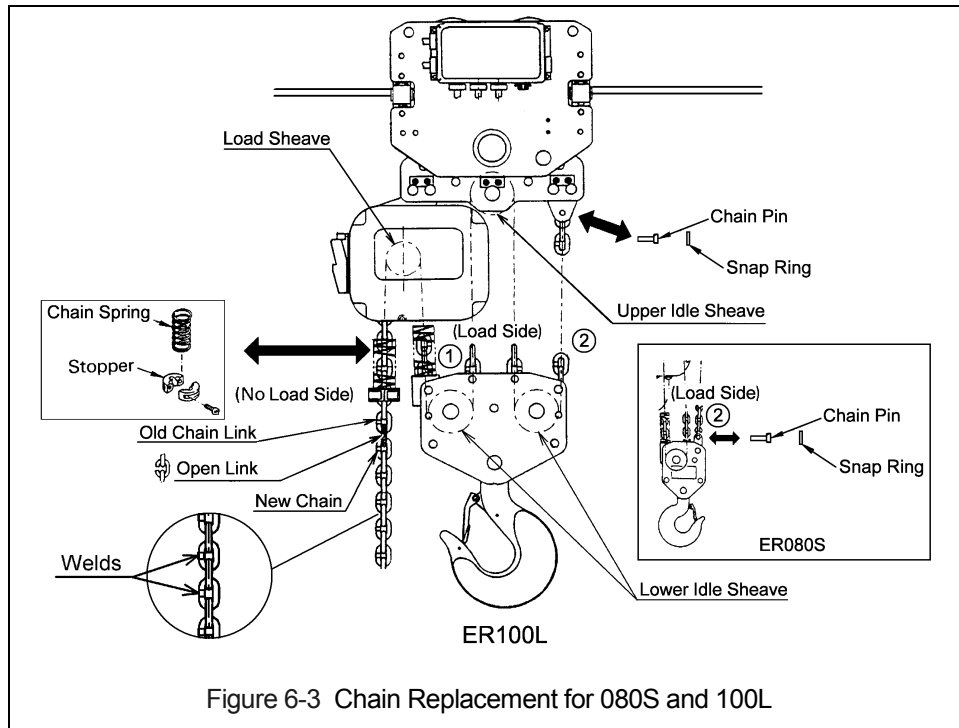

Figure 6-3 Chain Replacement for 080S and 100L
- 6) Using an open link, attach the new chain to the end link of the old chain on the no-load side. The end link of the new load chain should be connected so that the welded portions of the load chain's standing links are oriented to the outside as they pass over the Load Sheave. Refer to Figure 6-3.
- For ER080S pull down on Part ② until new chain is fed through the upper and lower idle sheaves. Secure the new chain at Part ② directly below the upper suspension plates to prevent the new chain from running back through the idle sheaves. Remove the open link attaching the new chain to the old chain.
- For ER100L pull up on Part ② until the new chain is fed through the upper and lower idle sheaves. Secure the new chain at Part ② directly above the lower idle sheave to prevent the new chain from running back through the idle sheaves. Remove the open link attaching the new chain to the old chain.